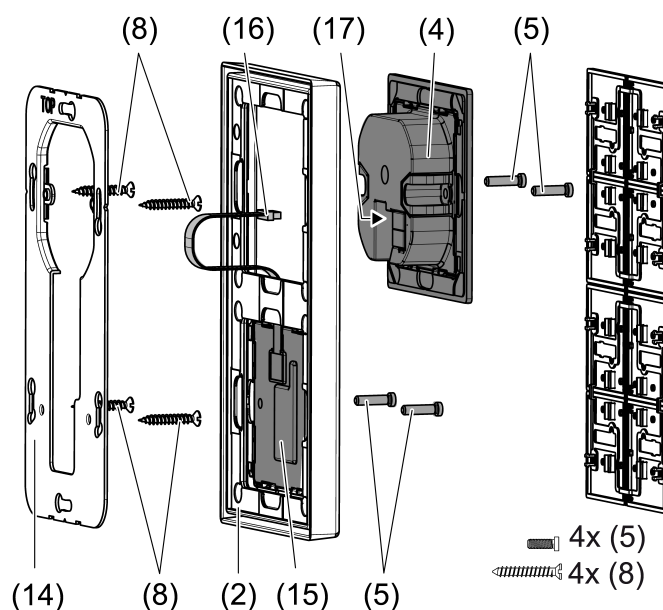

Figure 2: Mounting with push-button sensor extension module
When the push-button sensor extension module is used (see figure 2): preferably mounted vertically. Use large supporting frame (14). When mounting on only one appliance box, countersink the lower screws into the wall, e.g. with a  $\varnothing 6 \times 10$  mm hole. Use supporting frame as template.
- Mount supporting frame (1) or (14) in the correct position onto an appliance box. Note marking **TOP=**; marking A or B in front. Use box screws (8) (see accessories).
- Push frame (2) onto supporting frame.
- Mount the push-button sensor extension module (15) preferably below. Route connecting cable (16) between supporting frame and intermediate web.
- Push-button sensor extension module: Insert connecting cable (16) in the correct orientation into slot (17) in the push-button module. Do not crimp the connecting cable (see figure 2).
- Connect the push-button sensor module (4) to the KNX with the KNX device connection terminal (7) and push onto the supporting frame.
- Optionally fix the push-button sensor module(s) to supporting frame using plastic screws (5) (see accessories). Tighten the plastic screws only lightly.
- Before mounting the buttons (6), program the physical address into the device.